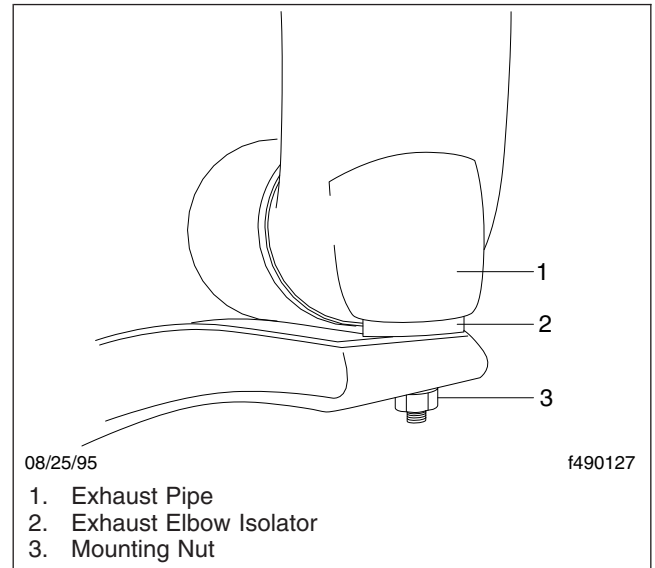

Fig. 7, Exhaust Elbow Isolator
7. Check the isolator at the base of the exhaust stack elbow(s) (see Fig. 7), for cracking, damage, and dry rot. Replace as needed.